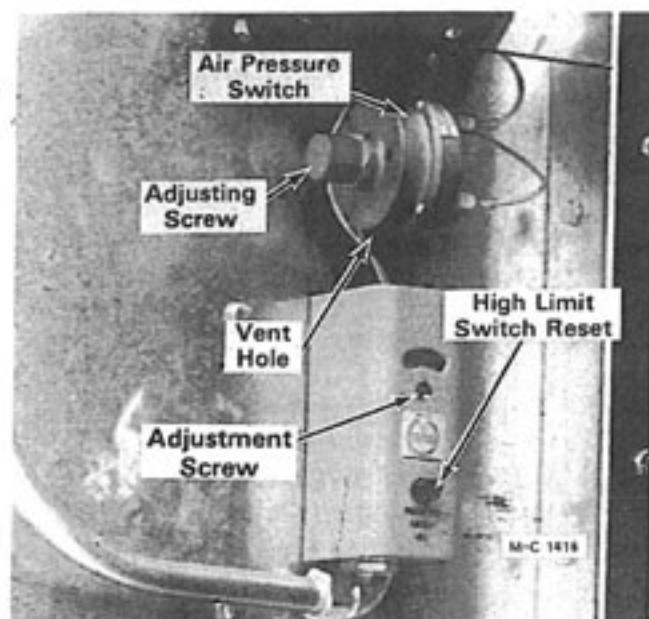

Figure 37
4. Disconnect the two wires at the back of each air pressure switch (there is one for each burner), see Figure 37. Connect the two wires together with a short jumper wire. Do not allow the jumper wire to come in contact with any metal. This will by-pass the air pressure switch.